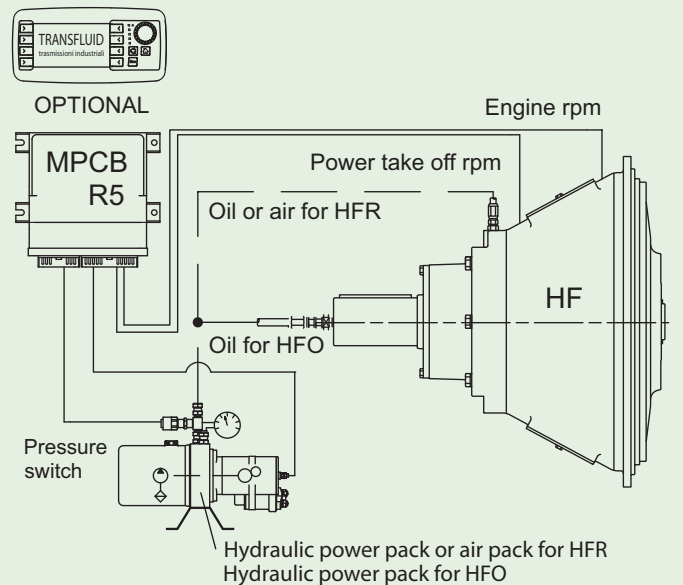

Fig. 4
- By MPCB R5 with Power Pack or Air Pack (fig.4)